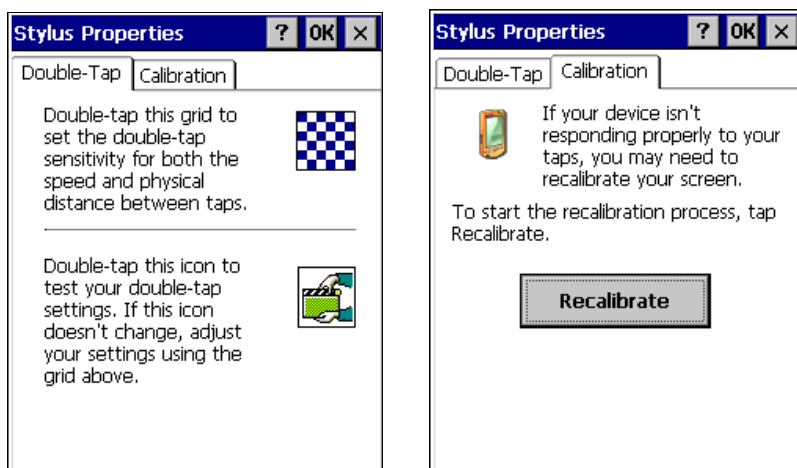

Figure 1
1. Select **Start > Settings > Control Panel > Stylus** to open the **Stylus Properties** dialog as shown in Figure 1.